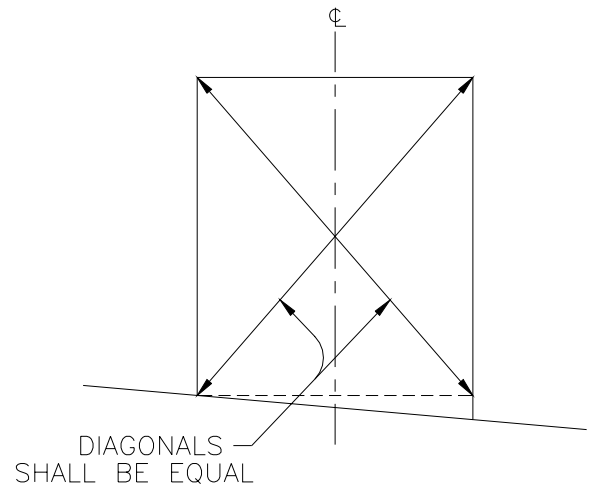

FIG. 1
- If measurements do not coincide**, see Figures 1, 2, and 3.
- If floor is sloped**, level the floor in and around door opening (Figure 1).